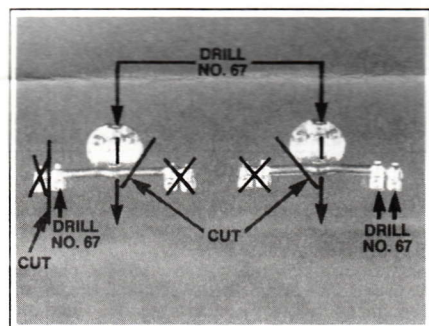

Figure 6
B. The spindle is provided as a reversible part. Drill the kingpin holes with a .032" (No. 67) drill, and test the fit of the spindle to the axle using a length of 1/32" brass rod as the kingpin. **DON'T GLUE THEM TOGETHER YET.** Remove one of the steering arms from each spindle. Be careful to remove opposite ones! The steering arms mount on the back side of the main axle tube. See Figure 6.
C. Clip off one of the rod ends from the left hand spindle as shown in Figure 6. Drill a .032" (No. 67) hole through each of the remaining three rod ends on the spindles using the small locating dimples as a guide.